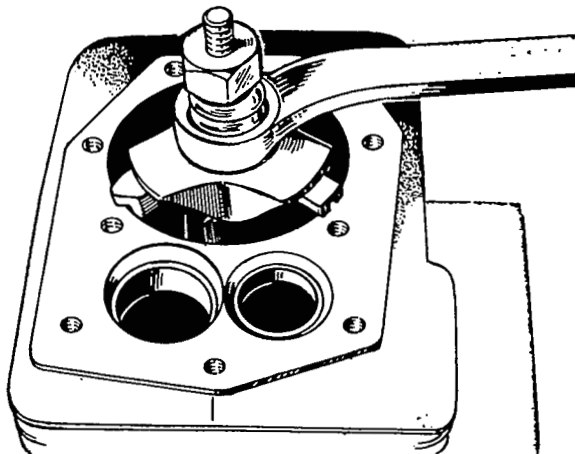

FIGURE 58. REMOVING RIDGE FROM CYLINDER
3. Remove carbon from top of cylinder bore and check for a ridge. Remove ridge (Figure 58) with a ridge reamer before attempting piston removal.